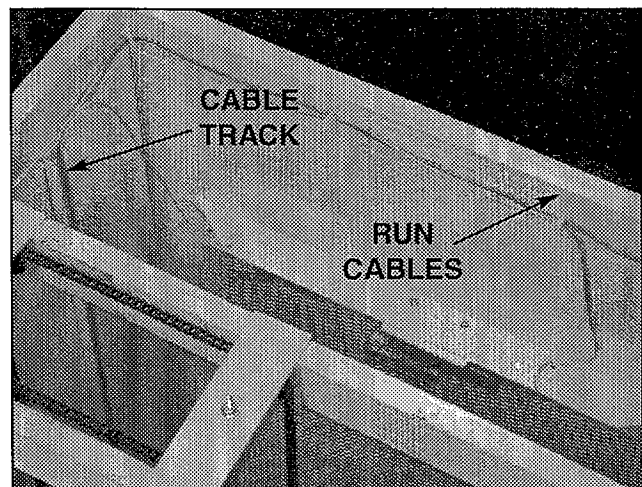

Figure 7
5. Run upper electrical component cables up back panel in unistrut and secure with covers. Rout wires to appropriate components (wire markers) securing around top of lift out of way of any moving parts. Run push button cable over top of lift and down along edges to push button station mounted near gate handle. Secure cable out of way. See Figure 7.